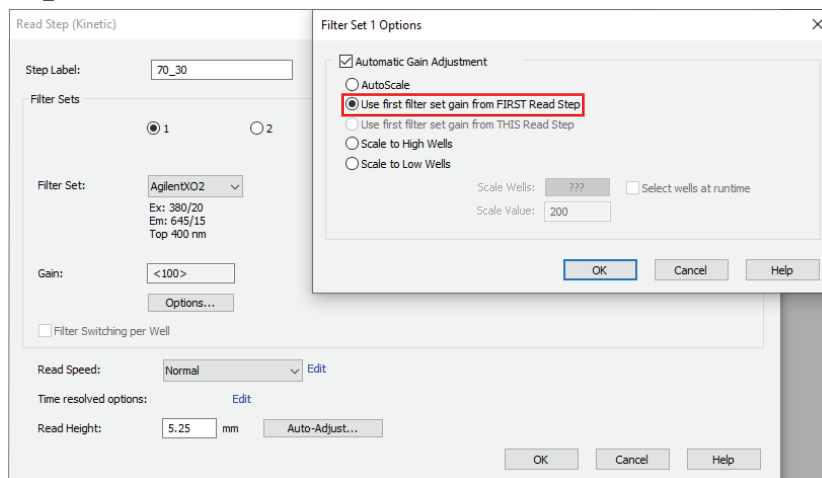

Figure 4. Setting up automatic gain adjustment.
- iv. Check that the settings in **Procedure** match Figure 4.